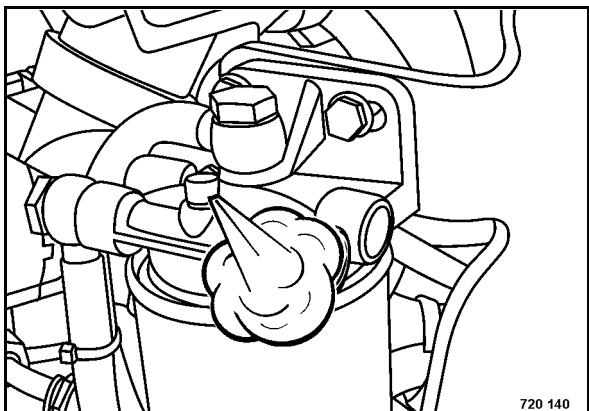

Fig. 115
- Open the bleeding screw on the fuel filter (Fig. 115) and crank the engine with the starter, until fuel runs out without air bubbles.